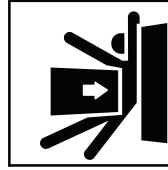

Figure 3. HDC Control Box
- Reset all HDC solenoid valves by selecting the RESET VALVES button (Figure 3, item 1) on the HDC control box.